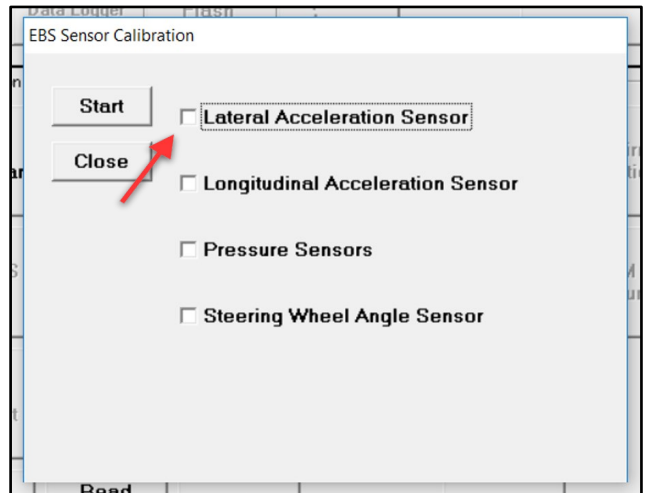

Figure 14
21. Select "Lateral Acceleration Sensor" (refer to Figure 14).